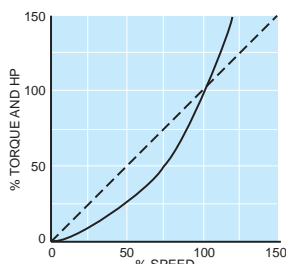

Figure 23. Squared Exponential Horsepower
3. Squared Exponential Horsepower (Figure 23)